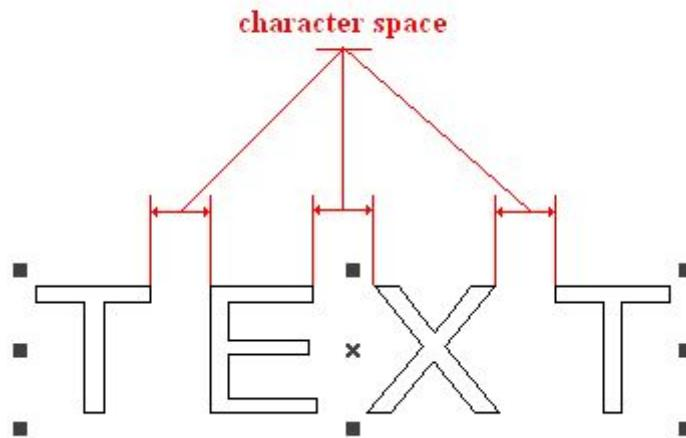

Figure 4-30 Calculate spacing according to character boundary
**TT** What the adjacent character spacing's computation refers to is left side the character right boundary to the right side character left boundary distance, see the figure 4-30: